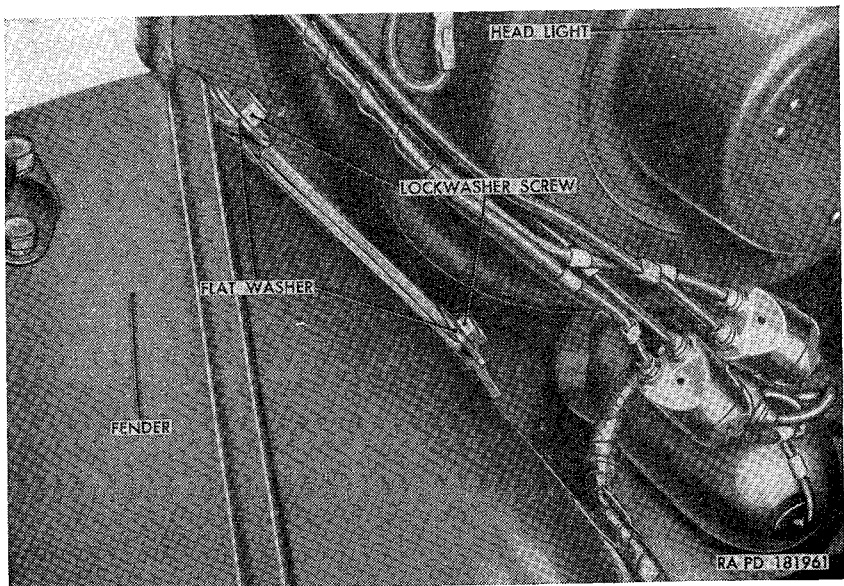

Figure 179. Front of left front fender secured to radiator guard.
- (6) Remove the two top lockwasher screws (fig. 179) securing the front of the fender to the radiator guard. Loosen the lockwasher screw at the bottom of the radiator guard to permit disengagement of the fender mounting slot.
- (6) Secure the front of the fender to the radiator guard with two  $\frac{5}{16} \times \frac{7}{8}$  lockwasher screws (fig. 179) at the top. Tighten the  $\frac{5}{16} \times \frac{7}{8}$  lockwasher screw at the bottom of the radiator guard.
- (3) Working on the engine side of the radiator guard with deflector assembly, loosen the four  $\frac{5}{16} \times \frac{7}{8}$  lockwasher screws (two at each fender) securing the radiator guard to the left and right front fenders (fig. 179). Working beneath the fenders, loosen the  $\frac{5}{16} \times \frac{7}{8}$  lockwasher screw securing each fender to the radiator guard.